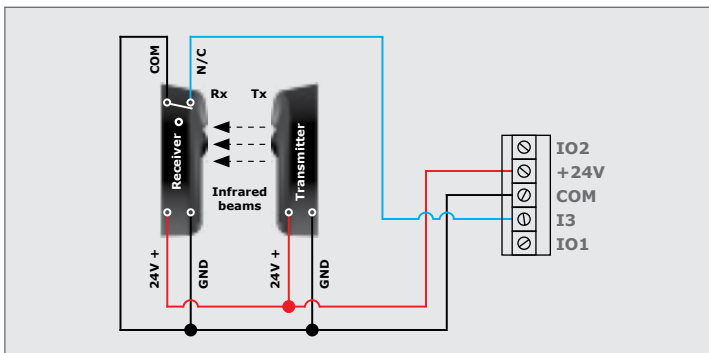

FIGURE 84. WIRING 15 SAFETY BEAMS TO THE SDO5 SMART+ (FOUR-WIRE)
- The trigger/TRG (green wire) in Figures 84, 85 and 86 can be either wired into IO1 or IO2, depending on the sites individual needs